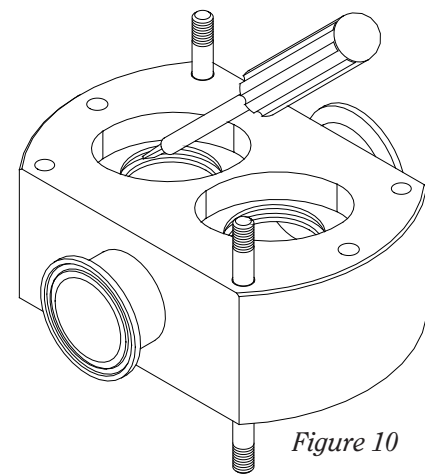

*Figure 9*
- f) Place your thumbs on the ID of the front stationary seals and push downward to press the stationary seals out of the pump housing (*Figure 9*).